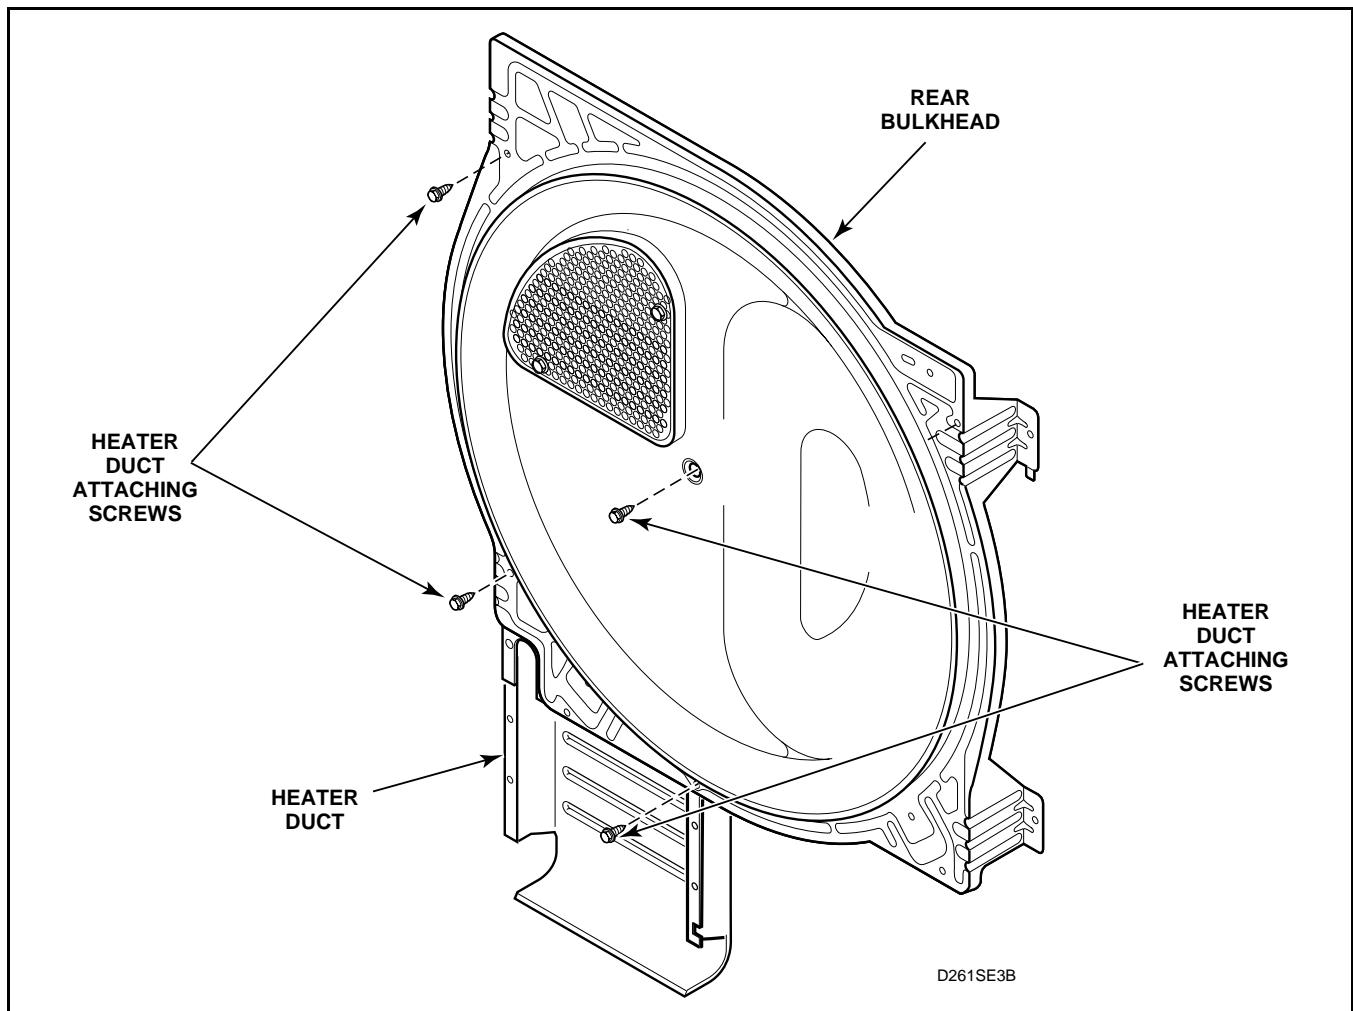

Figure 34
- (5.) Remove heater duct from rear bulkhead. See *Figure 34*.
- k. To remove heater duct from rear bulkhead. See *Figure 34*.